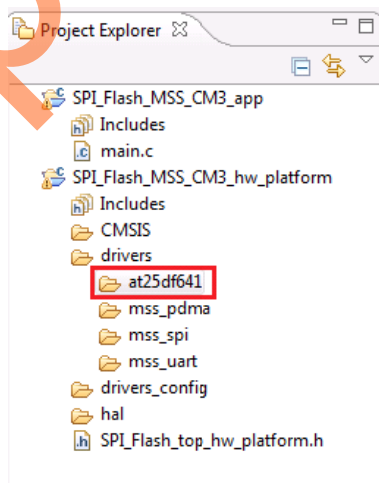

Figure 23 • Project Explorer window
5. Copy the **at25df641** folder to the drivers folder of `SPI_Flash_MSS_CM3_hw_platform` project in the SoftConsole workspace, as shown in Figure 23.